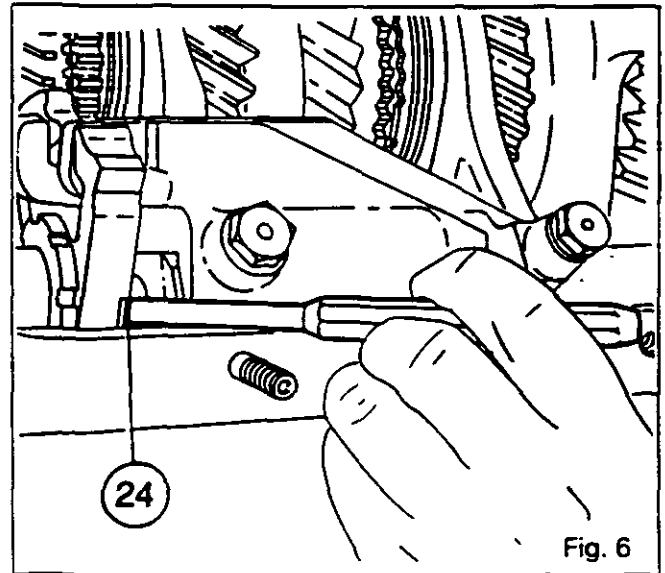

Fig. 6
26. Install the locally manufactured tool (see Section E) in the layshaft (Fig. 6).
7. Free the cone (24) on the guide rail (7) using a bronze drift (see Fig. 6).
8. Remove the set screw (8).
9. Remove the bearing (15), the guide rail (7) from the rear, the forks (5) and (6) and the locking assembly (25).
10. Dismantle the castellating nut (21), locking device (22), bearing (23) and cone (24).